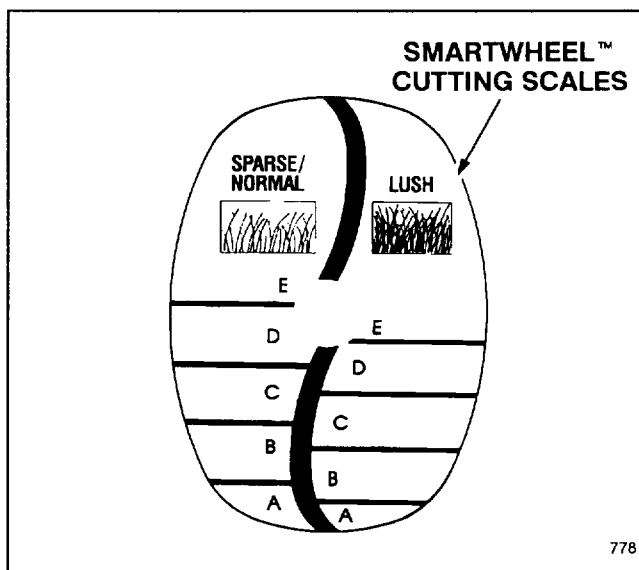

Figure 9
1. Before starting the engine and beginning to mow, push the mower into the grass. Stop when the words SPARSE/NORMAL and LUSH are upright on the SmartWheel design on the rear left wheel (Fig. 9).
2. Using the color coded SmartWheel design (Fig. 9), compare the tips of the grass blades to the